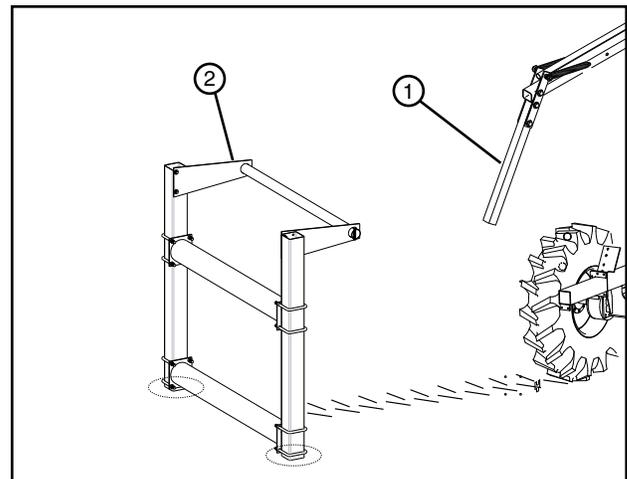

Figure 31-2 1. Actuator Arm
- Care must be taken when the barricade option in Figure 31-2 is used.